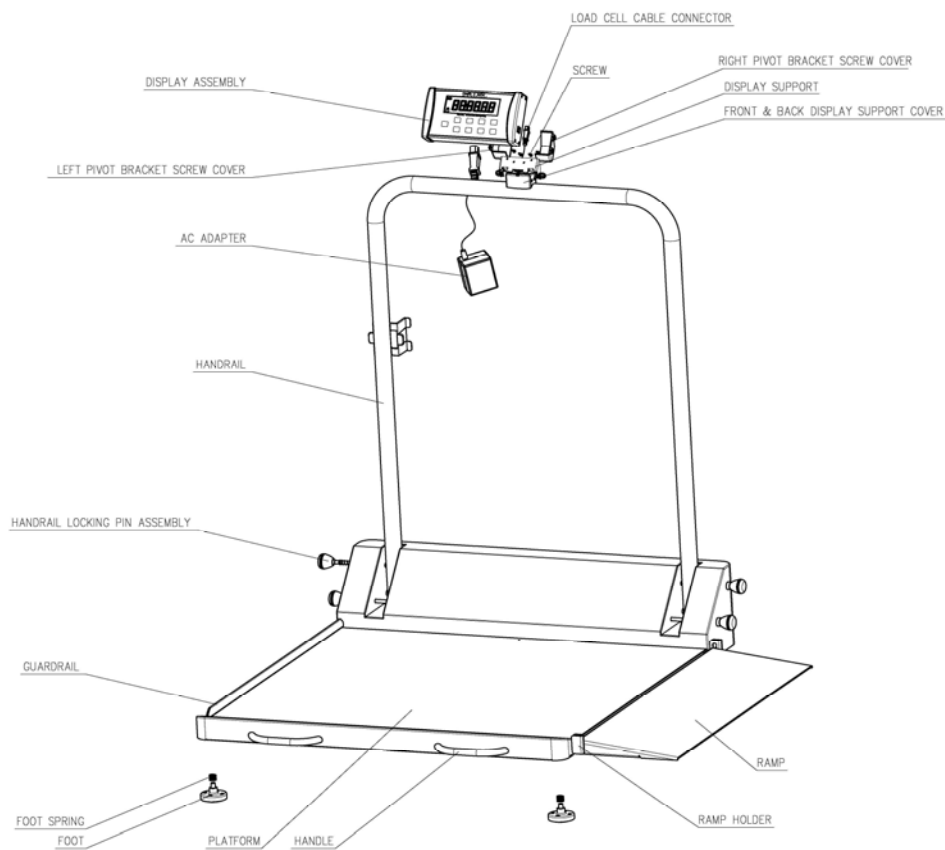

Figure 8
3. Thread the (4) feet into the underside of the scale platform (see Figure 8). Each foot should initially be completely hand tightened. Back feet out 1-½ full turns. This will allow for proper load cell operation and scale accuracy.
2. Loosen all four of the handrail locking pin assemblies by turning the locking pins counterclockwise (see Figure 8).